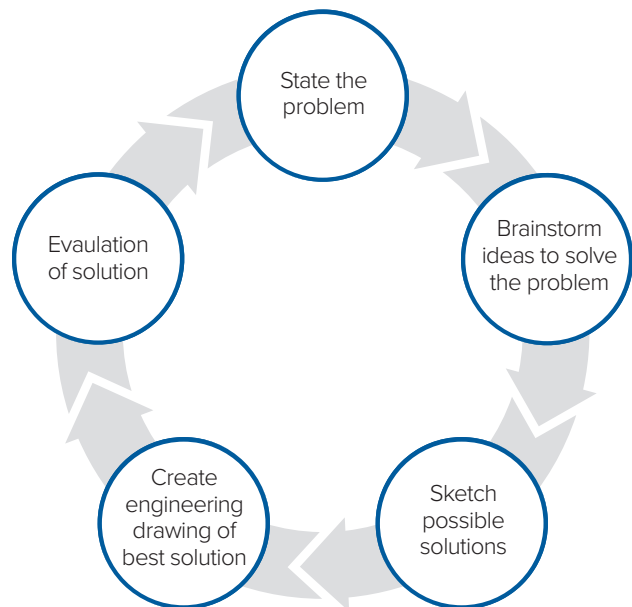

Figure 1: Technical design process loop
- A. Students prepare a portfolio that includes each step of the technical design process loop. (Figure 1).